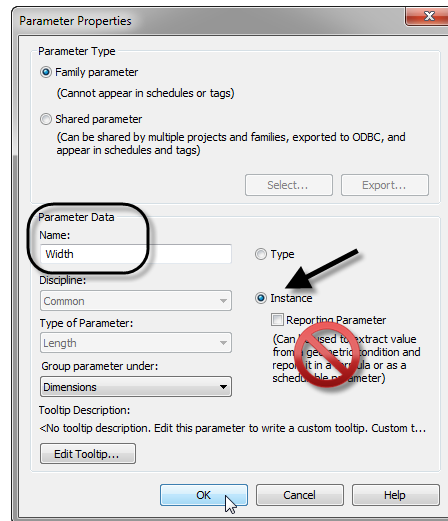

Figure 7
11. In the "Parameter Properties" dialog that appears, name the new parameter: **Width**, choose the **Instance** radio button (do *not* check "reporting") and then click OK (see Figure 7).